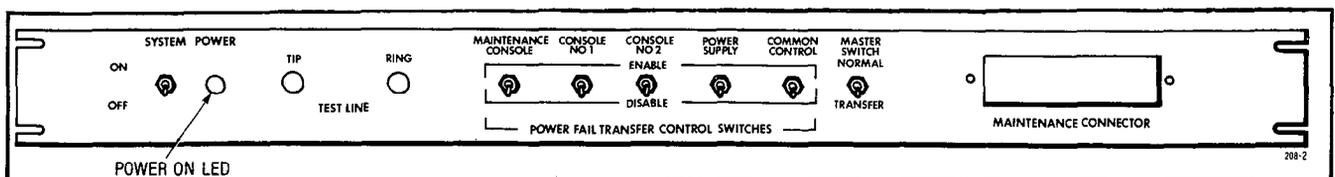

Fig. 2-4 Maintenance Panel
2.16 Maintenance Panel: At the top of the equipment cabinet is the maintenance panel (Fig. 2-4). This panel provides the service personnel with access to the system through the maintenance console connector and test line terminals. Also housed on the maintenance panel are the six Power Fail Transfer Control Switches, a system Power ON/OFF switch and a POWER ON LED.